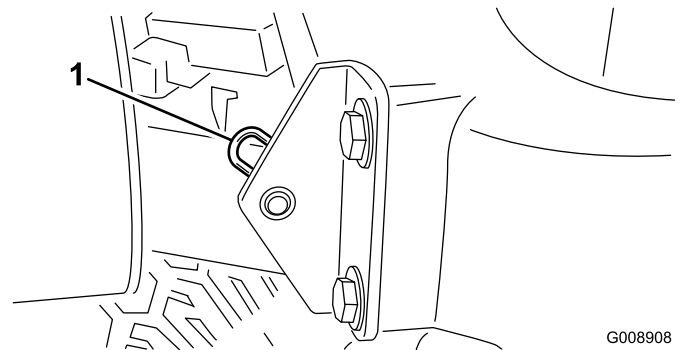

Figure 30
2. Remove the hairpin cotter securing the hood pivot to the mounting brackets (Figure 30).
Note: The flush fittings on the rollers (Figure 30) require a grease gun nozzle adapter. Order Toro Part No. 107-1998 from your Authorized Toro Distributor.